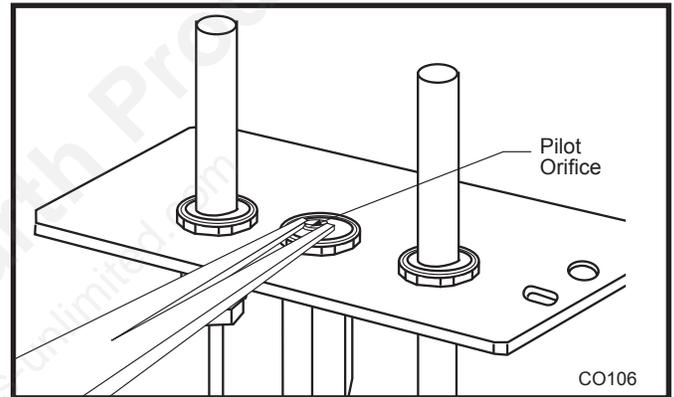

Fig. 77 Remove pilot orifice.
- 2. Remove pilot orifice with needlenose pliers. (Fig. 77)